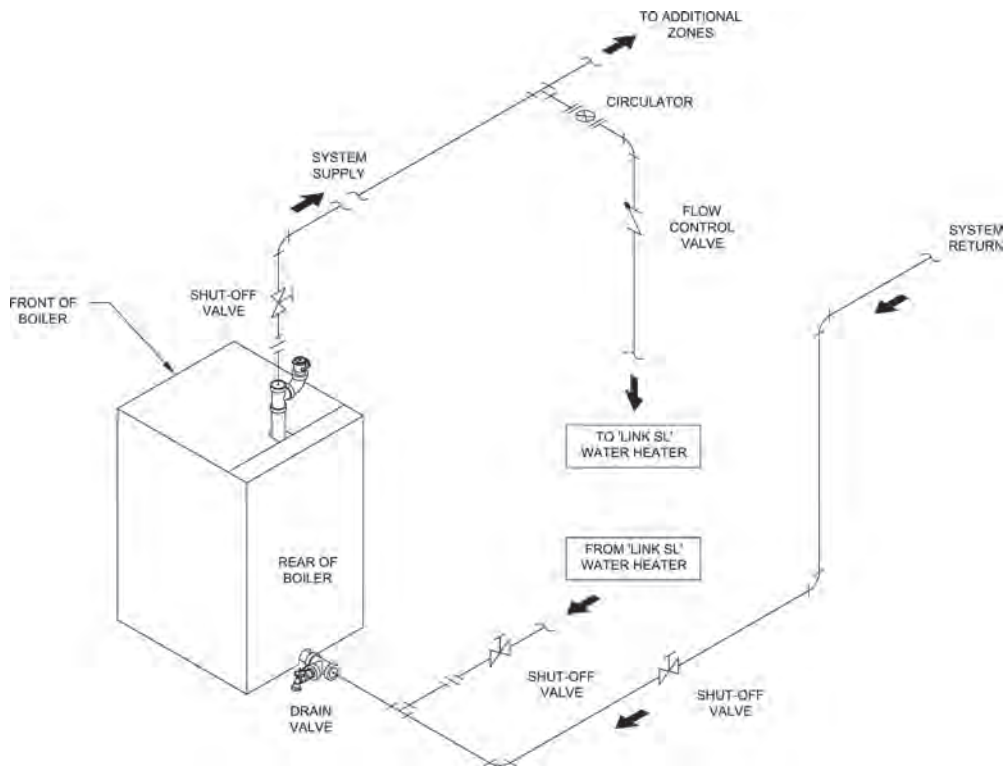

Figure 9A: Link SL™ Water Heater Piping w/Supply Side Circulator on Circulator Zoned Heating System
A. CONNECT an Link SL™ WATER HEATER PIPING as shown in Figures 9A and 9B.